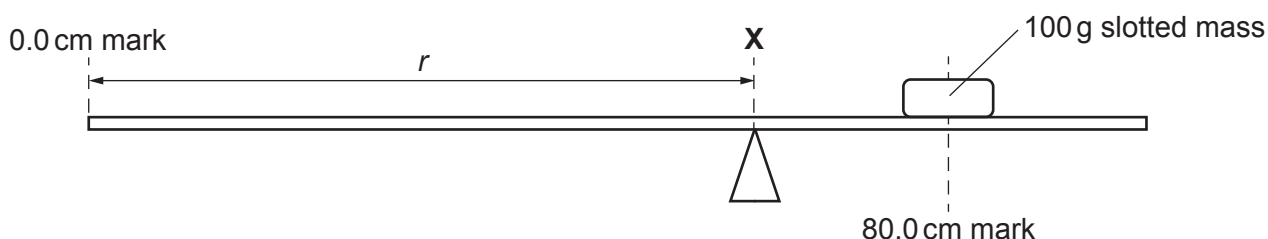

Fig. 4.1
2. The central slot of the 100 g slotted mass must be aligned with the 80.0 cm mark of the metre rule. The mass should then be securely attached to the metre rule using clear adhesive tape to ensure that it does not slip. With the mass attached, the distance r shown in Fig. 4.1 must be $65 \text{ cm} \pm 3 \text{ cm}$ when the rule is balanced horizontally on the pivot.